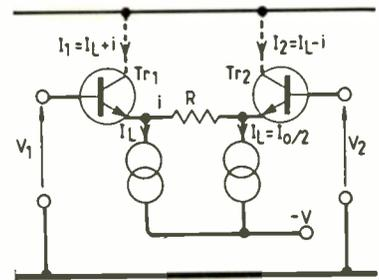

Fig.1. The basic circuit of the long-tailed pair.
The long-tailed pair, shown in Fig.1, is the basic building block of many analogue electronic circuits; for example, the input stage of operational amplifiers, full four-quadrant multipliers and high-frequency, voltage-controlled amplifiers. Recently, Lidgley^{1,2} obtained the expression of equation (1) to represent the current-voltage characteristic of the long-tailed pair.
We see now that the gain A should not be -2 but a little higher. For example, when $a = -20$ the gain should be adjusted to -2.53. Referring to Fig.1 we find that $R_a'' =$